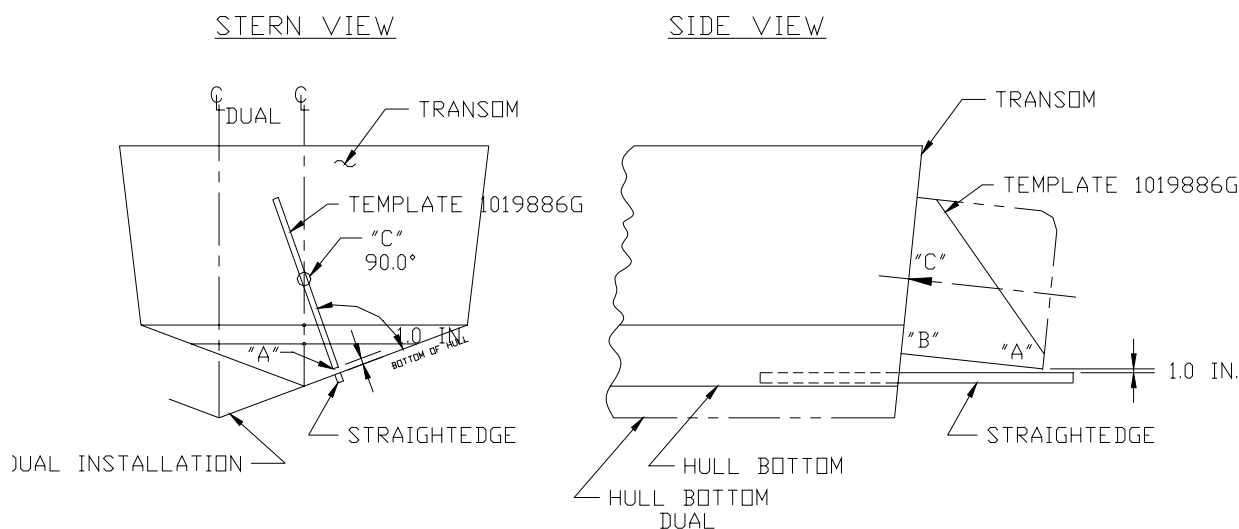

Figure 14. Mark Hull using Template 1019886G
3. Use Template 1019886G to locate and mark drive centerline(s) as shown in Figure 14.
- A. For single drive installations, position centerline of Template 1020306 on transom centerline. Locate and match "Points C" on transom Template 1020306. Mark centers for mount holes (13), and lubrication holes (2).
- B. For twin drive installations, locate and match "Points C" on transom and Template 1020306. Rotate template until cutaway area on the thrust socket flange is parallel to the hull deadrise as shown in Figure 14. Locate and mark centers for mount bolts (13) and lubrication holes (2).